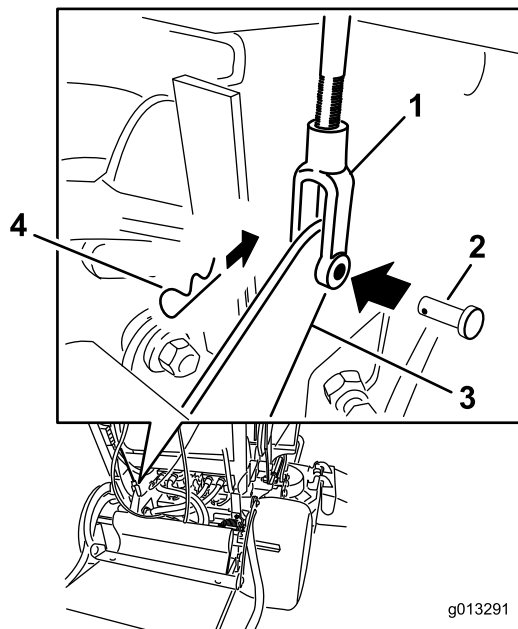

Figure 61
4. To adjust the brake, remove the clevis pin and hairpin cotter from the lower-brake lever and yoke (Figure 61).
7. Secure the yoke to the lower-brake lever with the clevis pin and hairpin cotter (Figure 61).